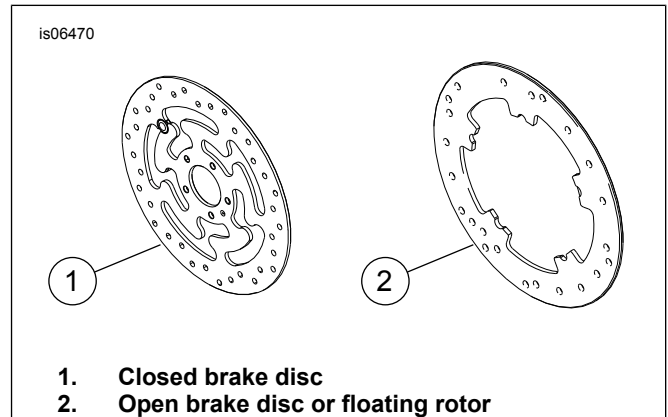

Figure 1. Front Brake Disc Styles
- Brake Disc Screws ( See Figure 1. and Refer to Table 1. )